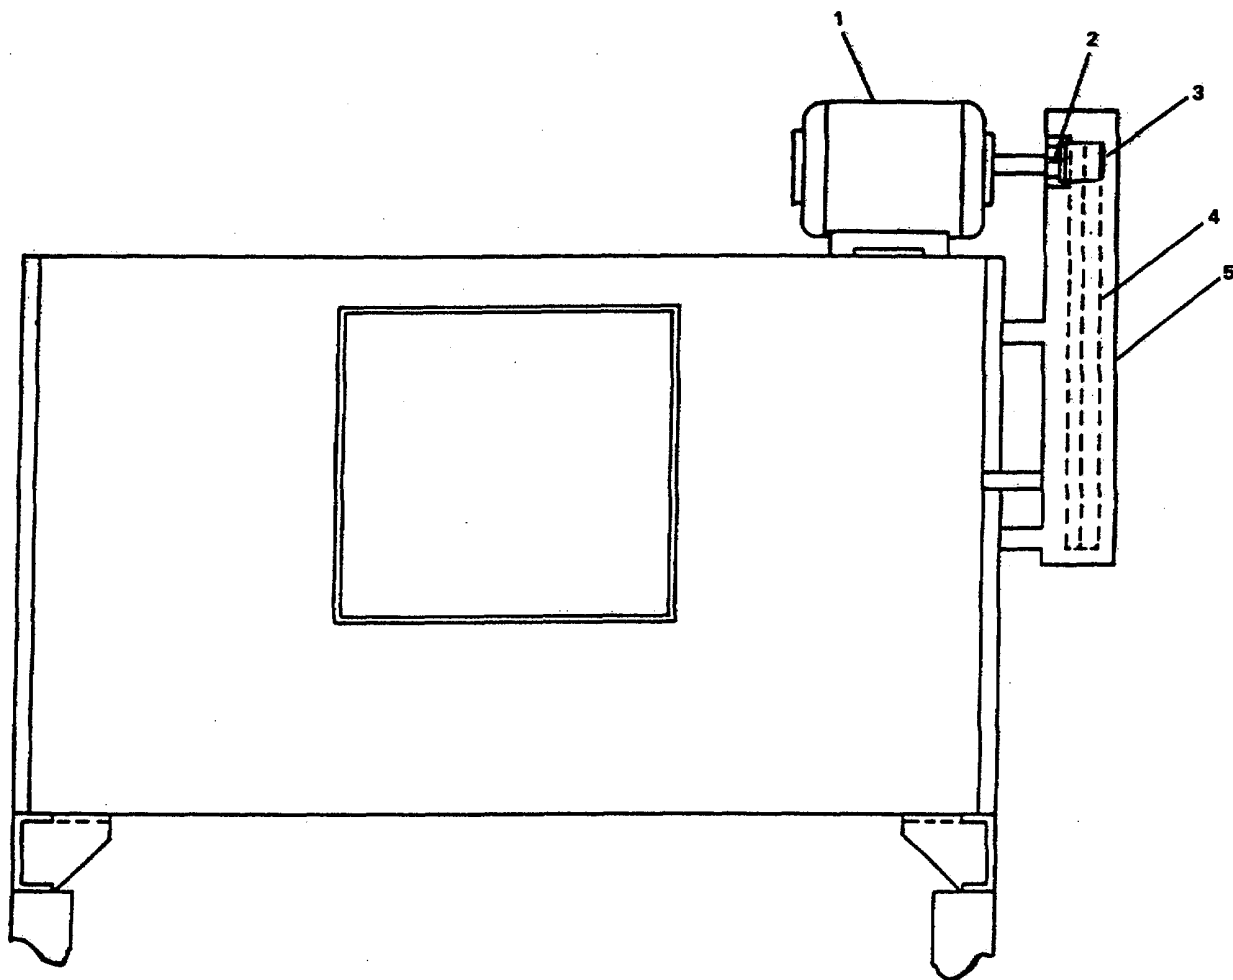
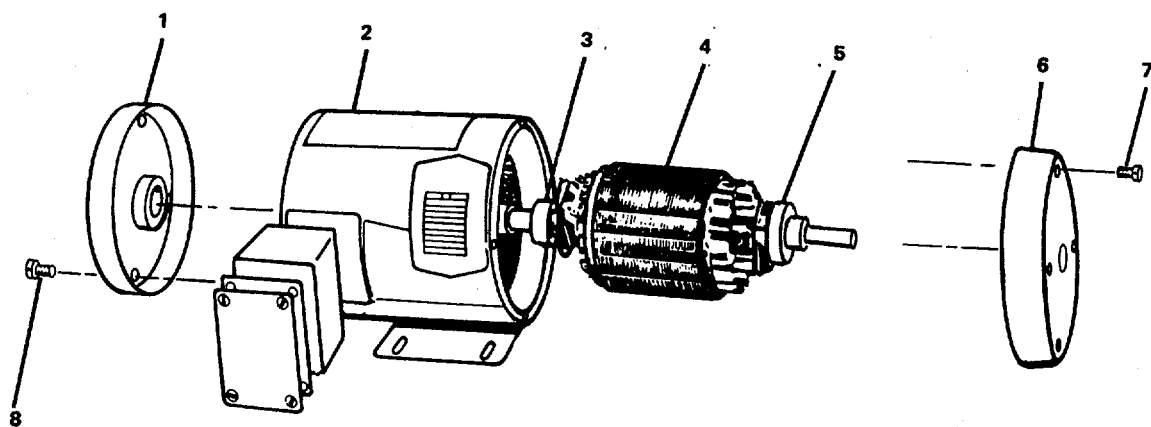

Figure 2-26. Electric Motor (A/C-2).
Figure 2-27. Electric Motor (A/C-2).
- a. Use a puller and remove sheave (3, FIGURE 2-26) and key (2) from motor (1) shaft.
- b. Remove four screws (6, FIGURE 2-27) and remove end cover (7).
- c. Remove four screws (8) and remove end cover (1).
- d. Slide rotor (9) from motor housing (4).
- e. Use a puller and remove bearings (5) and (6) from shaft.
- f. Use a hydraulic press and install new bearings (5) and (6) onto shaft.
- g. Install key (2, FIGURE 2-26) and sheave (3) on shaft of motor (1).